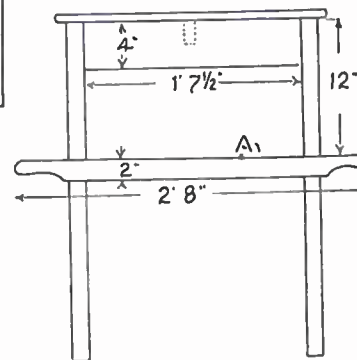
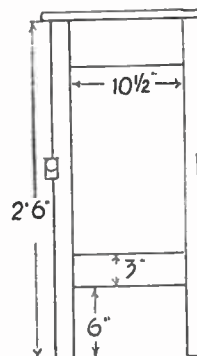
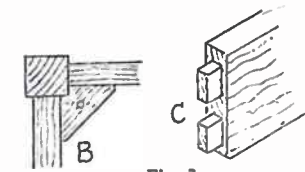

Fig. 1
Fig. 2
Fig. 3
Across the centre of the framework where shown by the dotted outline in Fig. 1, groove in a middle bar as an extra support for the weight of the aquarium. To stiffen the whole, screw wood corner blocks in each angle as at (B) Fig. 3, these being level with the top.
A front view is given in Fig. 1 and a side view in Fig. 2 from which all necessary dimensions can be taken. The legs are cut from 1 1/2 in. square material. Wood of sound quality should be chosen for construction, oak if the expense can be met, or red deal if something cheaper has to be employed. The rails are cut from 1 in. thick stuff, free from knots and shakes. These rails are tenoned into the legs, the tenons being 3/4 in. in length. Those of the top rails are detailed at (C) each 1 1/2 in. long and spaced 1/2 in. from the top, with a 1/4 in. gap between them.
The thickness of the wood is shouldered down to 1/2 in. for the tenons, by removing 1/4 in. each face side. Set out the mortises on the legs for the rails to come midway as at (B) Fig. 3. Make a close tight fit to all joints. For the lower side rails, the single tenon at each end should be 2ins. long, a double tenon